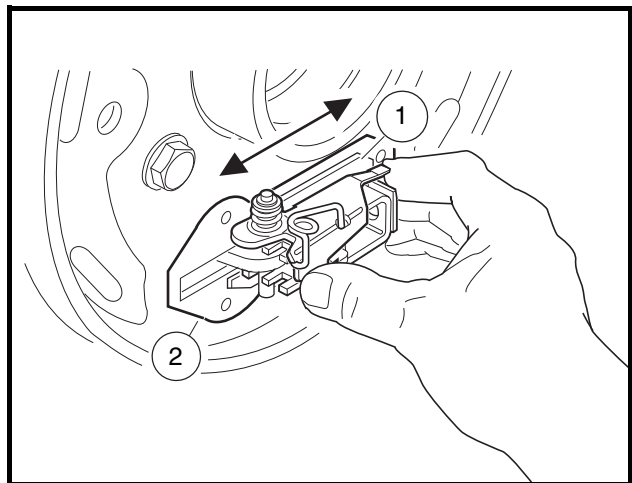

Figure 6-7 Lubricate Slide
3. Lubricate the slide (1) and slide plate (2) with dry moly lubricant (CC P/N 1012151) on both sides of the backing plate. After lubricating, work the slide back and forth to ensure it slides smoothly and easily (Figure 6-7, Page 6-3). Reinstall rubber boot onto backing plate.